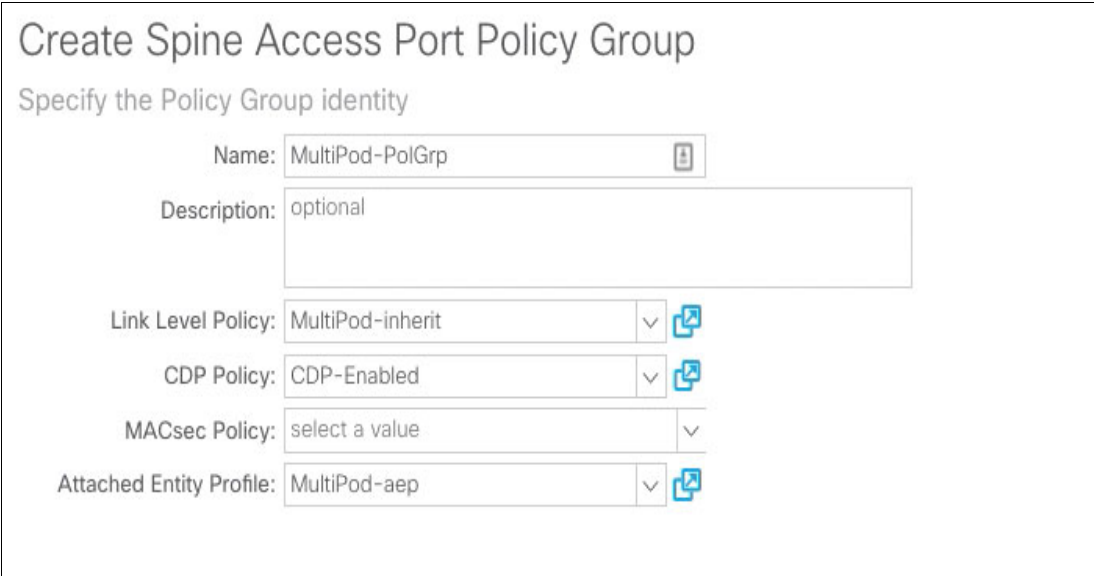

Figure 4-7 Create Spine Policy Group
7. From the **Attached Entity Profile** menu, select the recently created AEP (**MultiPod-aep**), as shown in Figure 4-7.